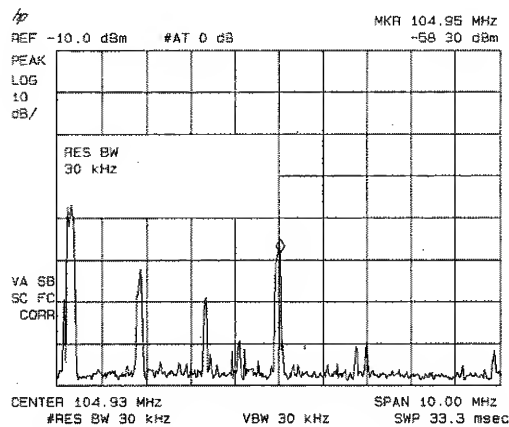

Figure 3-18. Decreasing Resolution Bandwidth
2. Press **[BW]** then **[⇓]**. The low-level signal appears more clearly because the noise level is reduced. See Figure 3-18.